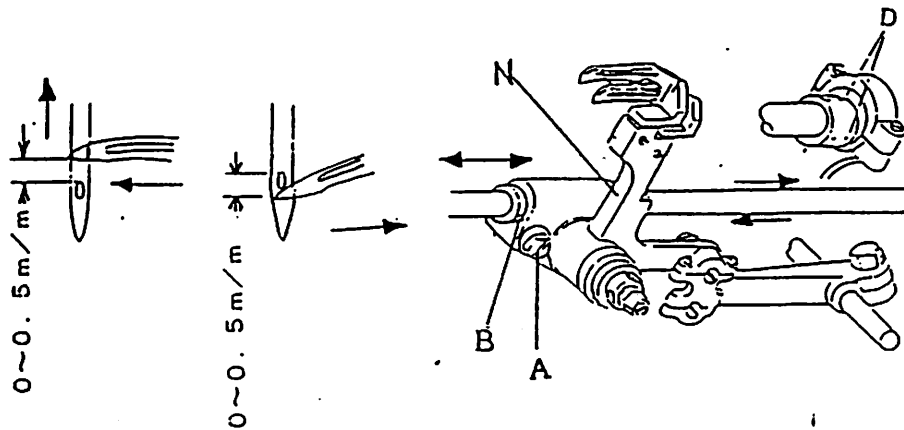

Fig. 11
Confirm the distance 4mm at the needle drop points A and B (Fig. 11). Tighten the set screws A and B lightly and adjust the looper holder N finely side to side.
12. Timing of Needle and Loper (Refer to Fig. 11.)
Loosen the screw D and adjust the position of the eccentric so that the looper moves leftwards passing 3 mm above the top of the needle eye and rightwards passing 2 mm above the top of the needle eye (Fig. 11).